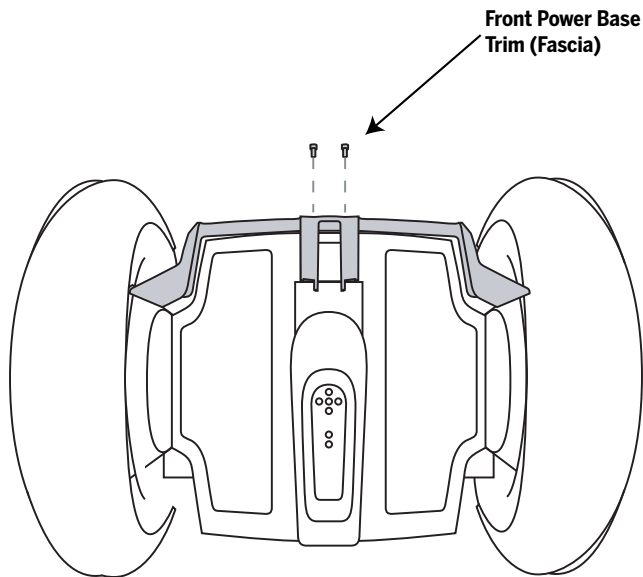

Figure 1. Remove Fascia fasteners
2. Remove the (2) fasteners from the Front Power Base Trim (Fascia) using a 4 mm hex wrench. See Figure 1.